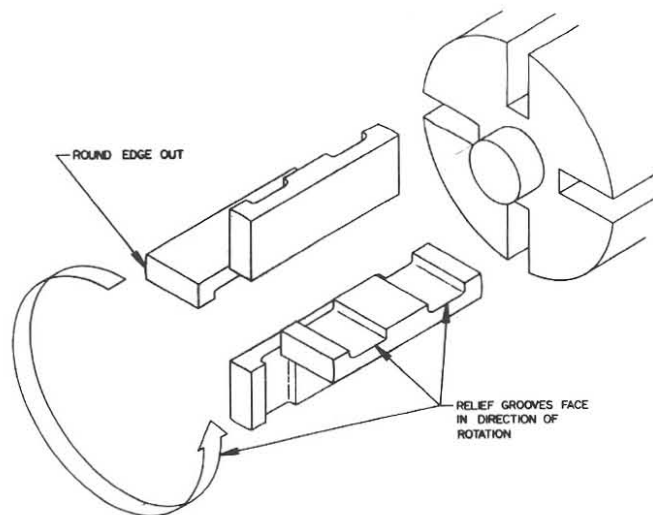

Fig. 4
Put a light coating of clear oil on the rotor shaft, and the threads on both sides of the rotor. Slide the two (2) push rods into the holes in the rotor vane slots. Install the four (4) vanes with the metal wear plates toward the shaft centerline and the grooves facing the direction of the rotation (see Fig. 4). Refer to pump rotation, in the preceding paragraph, and carefully insert the correct end of the rotor shaft through the seal assembly in the installed head. Care should be taken to avoid "O" ring damage. Slowly rotate the rotor shaft to engage the seal drive tang.